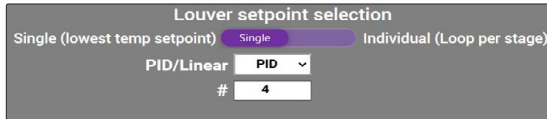

Figure 21
- a. The toggle is purple when **Single** is selected. See *Figure 21*. To configure the settings for a single temperature setpoint: